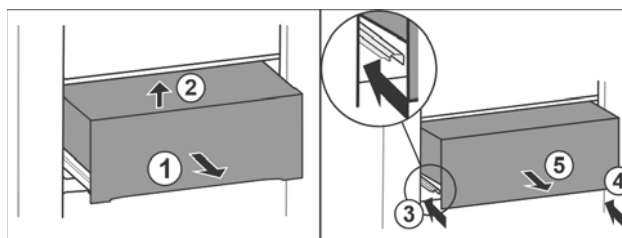

Fig. 24
- Pull out the drawer halfway Fig. 24 (1).
- Lift at the front Fig. 24 (2).
- Slide in left rail Fig. 24 (3).
- Slide in right rail Fig. 24 (4).
- Remove the drawer to the front Fig. 24 (5).